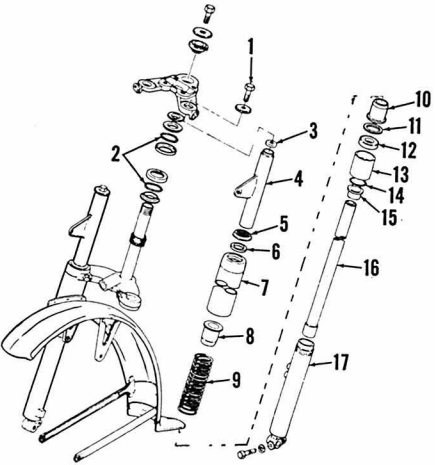

Fig. Y3-12—Exploded view of the front suspension used on YL-2 models. Other models are similar.
**SUSPENSION.** Each front suspension unit contains 145cc of oil on YL-2 and YL-2C models; 165–175cc of oil on YA-6 models; 140cc of oil on L5T models. Oil used should be a mixture of 8 parts SAE 30 motor oil and 2 parts of SAE 60 spindle oil. Oil should be drained every 4,000 miles and new oil filled through hole for screw (1—Fig. Y3-12). Nineteen bearing balls (2) are used in each race.